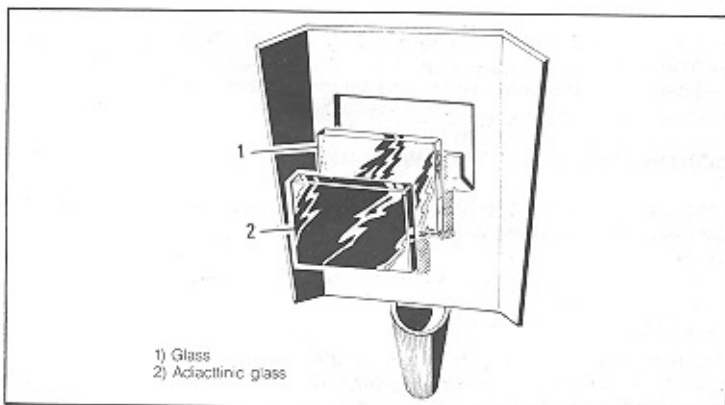

Fig. 3
- Release the wire pressing unit (D), slip the wire into the hole (A), pass it on the roller (B), and insert it at least 10 inches in the sheath (C). Fasten the unit (D) making sure the wire stays in the groove of the wire slide roller.
- Prepare the mask as shown in figure 3.